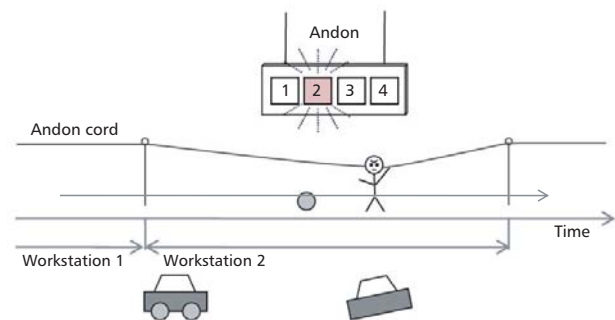

Figure 8 — An Andon board in lean manufacturing.
- The user should be able to see the dashboard without any effort. For example, in a car, the dashboard is built in such a way that it is in the range of vision of the driver. An organizational dashboard should be displayed on a monitor in the corridor or somewhere in the office where many are passing by. The information will be pushed to the users without their active participation. An example of such a dashboard is the Andon board, used in lean manufacturing, which is placed so that everybody can see if there is a problem on the assembly line (see Figure 8).